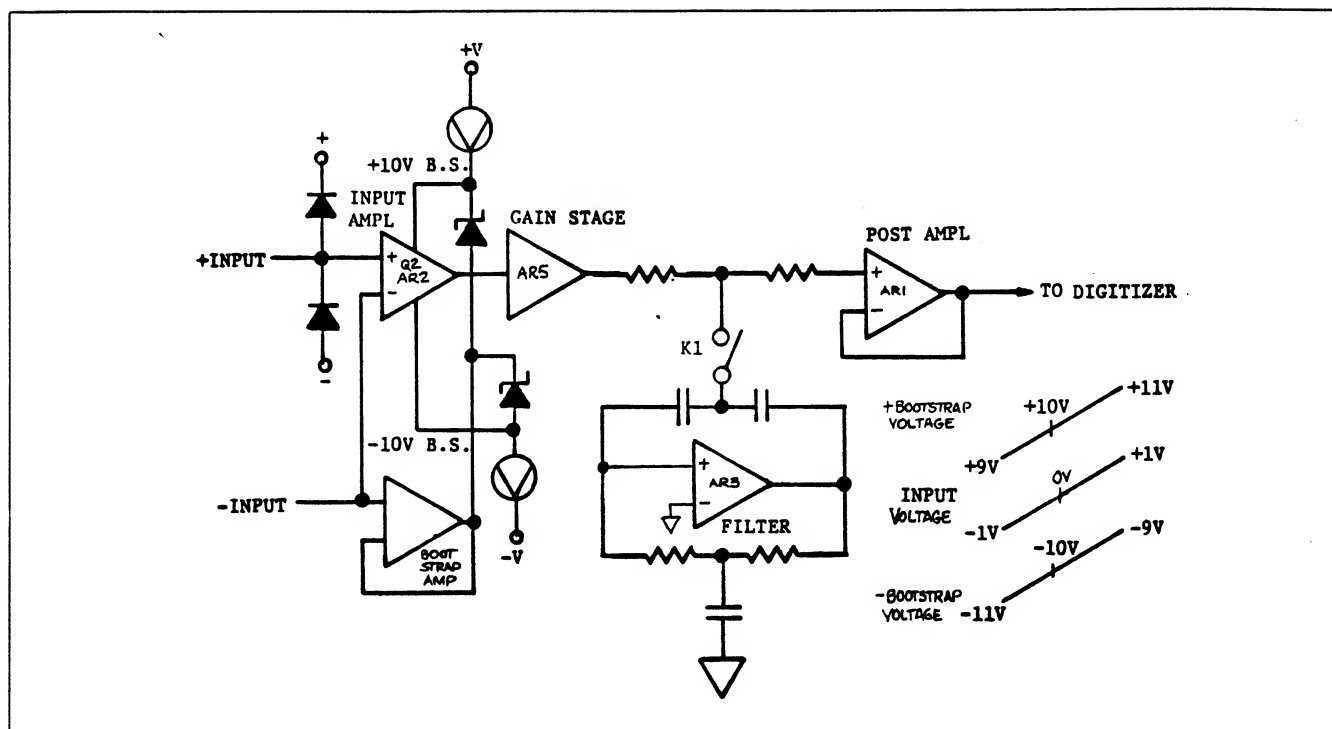

Figure 5.16 - Isolator Block Diagram
5.3.5.5.1 The Isolator (Figure 5.16) consists of a high open loop gain amplifier, a bootstrap amplifier and three poles of the switchable 4-pole active filter. The Isolator is connected in a potentiometric gain configuration with feedback resistors located on the Attenuator/Reference Board. Gains of 1, 10 or 100 are provided by the Isolator, depending on the range and function selected.
DC when the input to the Isolator is 0 volts DC. As the input voltage increases in the positive direction, both of the bootstrap voltages also increase an equal amount in the positive direction. As the input moves in the negative direction, both of the bootstraps move an equal amount in the negative direction. This bootstrap effect provides an effective input impedance greater than 10,000 megohms. Figure 5.16 illustrates the relationship.